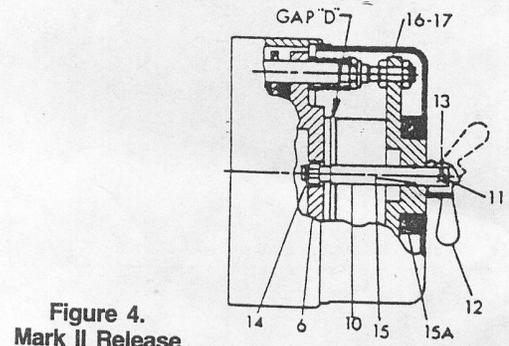
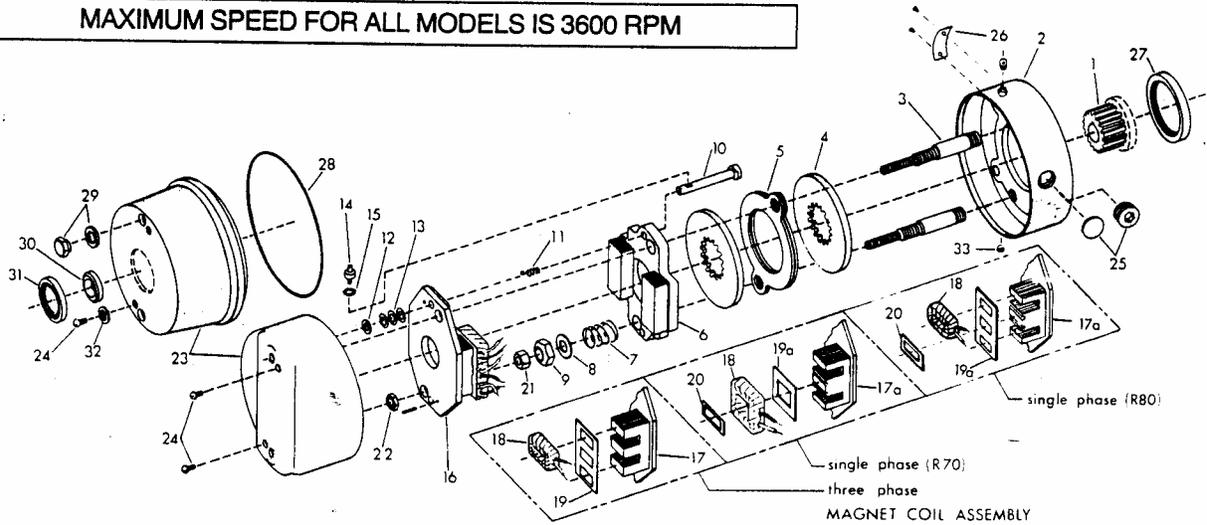

Figure 4.
Figure 5. Exploded View of Brake
Figure 1 illustrates Diract brakes with a standard manual release. This release consists of two rods visible thru the cover. An optional release, the Mark II, has a single lever as shown in Figure 4.
Refer to Figures 4 & 5
To operate standard release (Figure 5), rotate two rods (10) clockwise until stop screw (14) hits pin. To operate Mark II release (Figure 4), push lever (12) to upward position. Brake will remain in release position until rods or lever are manually returned to original position, or until electrical power is restored which automatically resets the brake.
1. Remove cover screws (24) and cover (23), plus "O" ring (28) and gasket (32) on enclosed models.
2. Standard release model: Unhook loop of torsion springs (11) from pins at rear of magnet plate (16). Remove release stop screws (14) washers (12) and shims (13). See Figure 5. Mark II release model: Remove cotter pin (13) and release lever (12). See Figure 4.
3. Remove adjusting lock nuts (22) magnet assembly (16), adjusting nuts (21), torque nuts (9), washers (8), torque spring (7) and pressure plate (6).
4. Remove friction disc (4) and stationary disc (5). Replace worn friction discs.
When assembling a standard manual release mechanism (Figure 5), add only enough shim washers (13) to obtain proper release action. Too many shim washers will prevent automatic reset when electrical power is applied. Too few washers will prevent the motor shaft from turning freely. Replace stop screws (14). Wind each torsion spring (11) approximately $1/4$ turn and hook spring loop over pin.
When assembling a Mark II manual release mechanism (Figure 4), attach lever (12) to release rod (1) with pin
(11) and cotter pins (13). With lever (12) in raised position, rotate lever until pressure plate (6) makes contact with magnet assembly (16) closing gap "D". Lower the lever and turn counterclockwise $1/4$ turn. The lever should now hang down, and if not, remove lever and relocate it as close as possible to down position as holes in rod (10) allow. The lever must hang down because reset is by gravity (vertical mounted brakes have return springs).
Refer to figures 5 & 6.